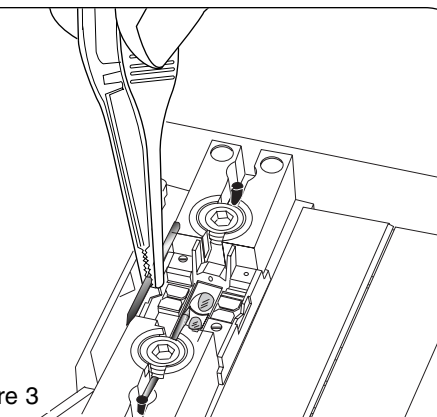

Figure 3
4. Remove an electrode with tweezers. Be careful not to touch the V-grooves as damage from hard objects can occur (Figure 3).